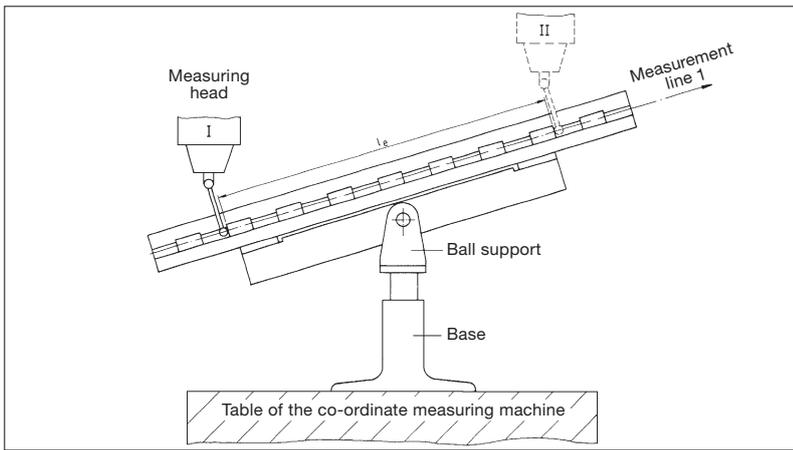

Fig. 2:
- Outside dimension L_e e.g. with the probe head in positions I and II /Fig. 2)